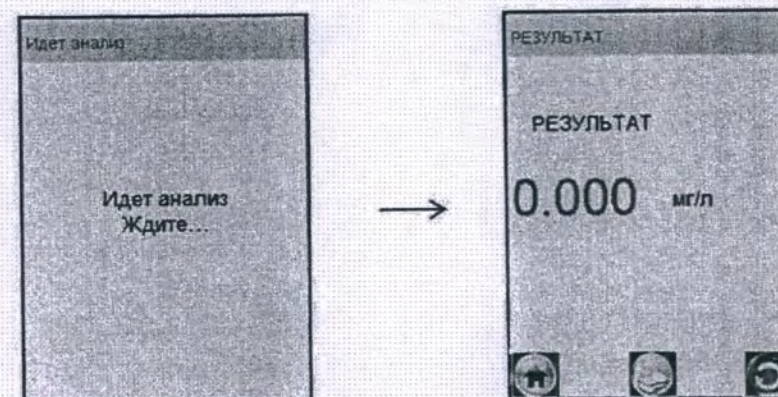

Figure 16 – Presentation of measurement results
2.8.16 After taking an air sample, the mass concentration of ethanol vapor in the selected sample is measured, and the message “**Analysis in progress, please wait...**” is displayed on the screen (Figure 16, left).
After the sample has been analyzed, the result of measuring the mass concentration of ethanol (alcohol) vapor in the selected sample of exhaled air is presented on the screen (Figure 16, right).